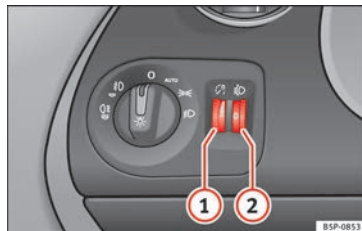

Fig. 61 Dash panel: Instrument panel and control dimmers and headlight range control.
When the headlights are switched on, the brightness of the instrument panel and controls can be adjusted by turning the thumb wheel » **Fig. 61 ①**.